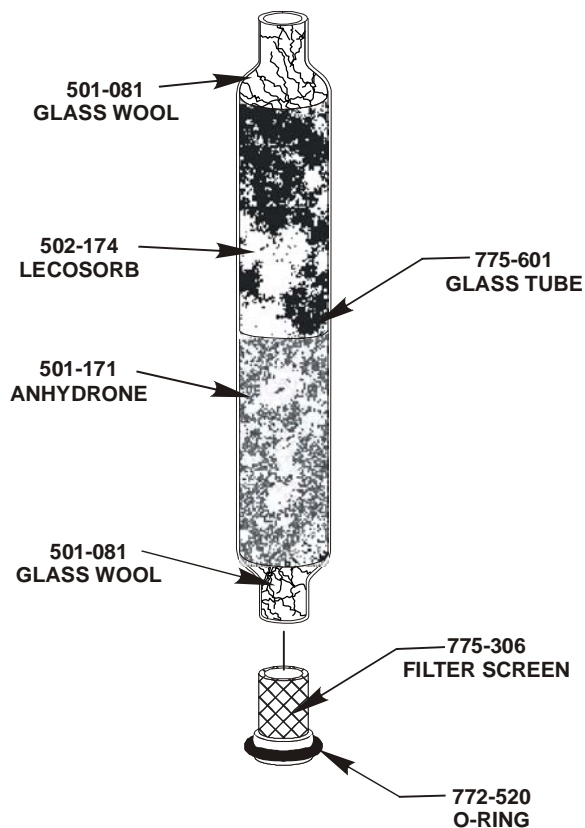

Figure 3-11
2. Pack $\frac{3}{4}$ inch (19 mm) of glass wool into the screen filtered bottom of the tube. Refer to Figure 3-11 below.